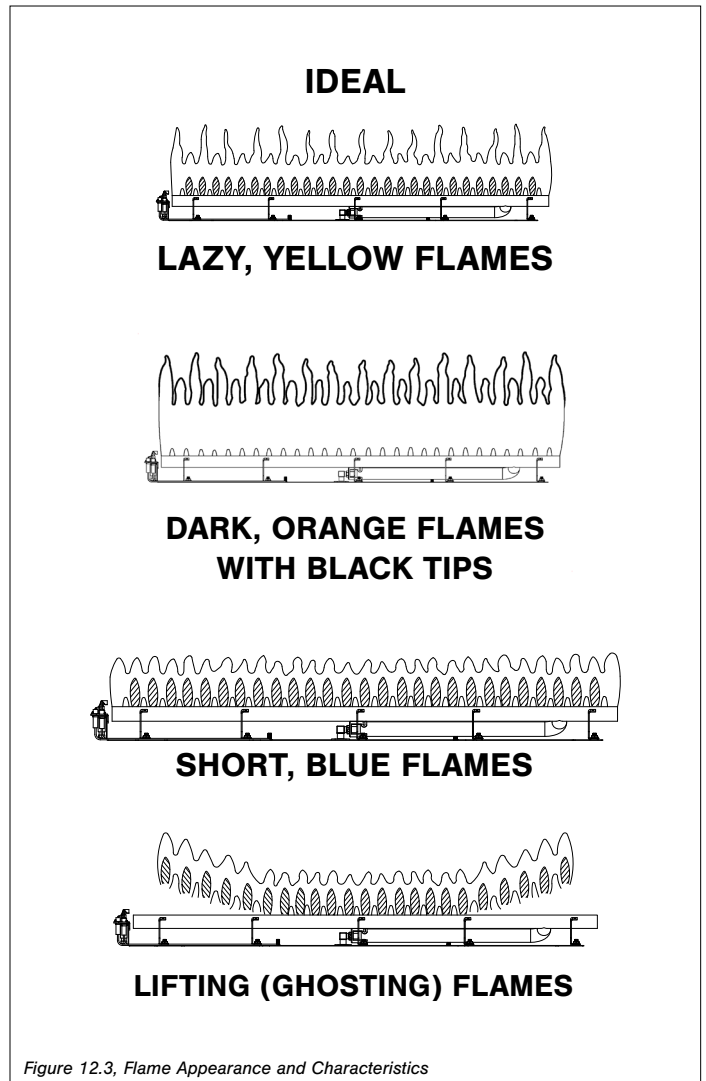

Figure 12.3, Flame Appearance and Characteristics
- Visually check pilot light and burner flame pattern when in operation. Flames should be steady, not lifting or floating. Refer to Figure 12.3, Flame Appearance and Characteristics on page 42.